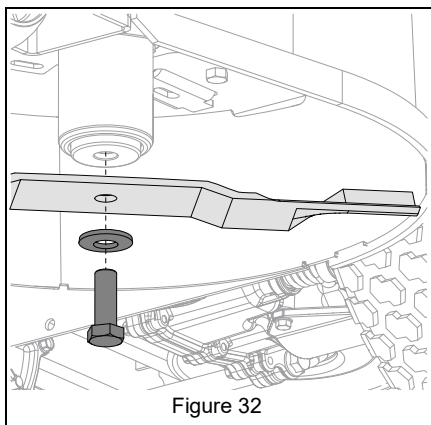

Figure 32
3. Remove hardware securing blades to spindles and remove blades. Retain all hardware for reinstallation. See Figure 32.
See Figure 32.